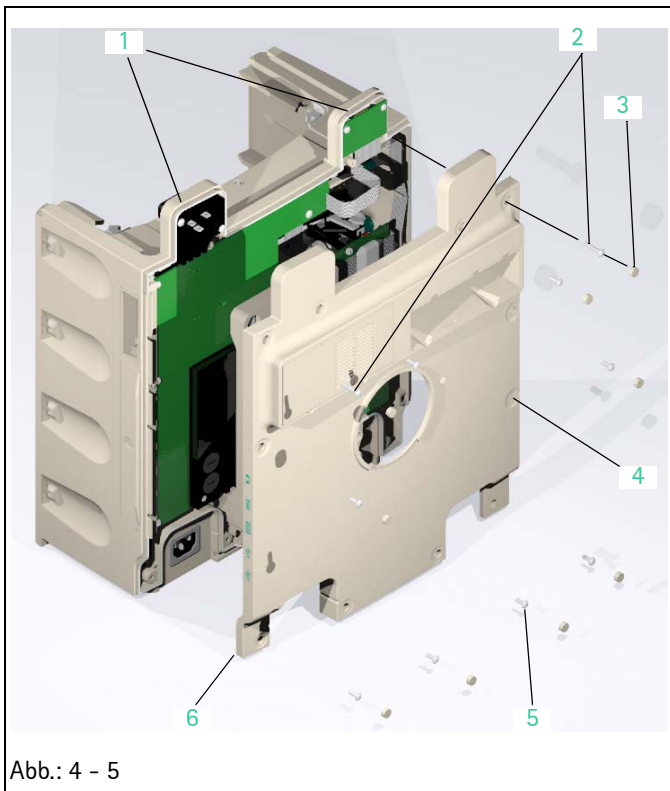

Abb.: 4 - 5
1. Loosen three screws (Abb.: 4 - 4 / Item 2) and remove screws together with the pole clamp guide (Abb.: 4 - 4 / Item 1).
2. Remove pole clamp lever (Abb.: 4 - 4 / Item 4) and pole clamp spring (Abb.: 4 - 4 / Item 3).
Legende zu Abb. 4 - 5: